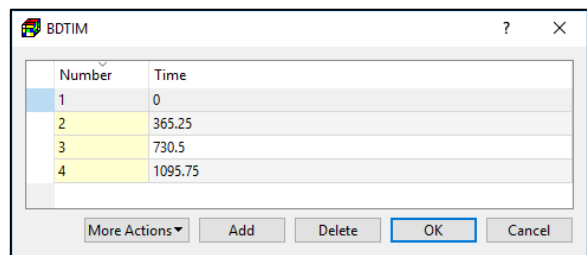

Figure 53. The BDTIM dialog box
- **Times of Specified Values (BDTIM):** Click the Edit button to open the BDTIM dialog box (Figure 53) where you can edit an array of simulation times at which the flow or head values can be defined. The array of simulation times applies to the entire package. The features of the BDTIM dialog box are as follows: